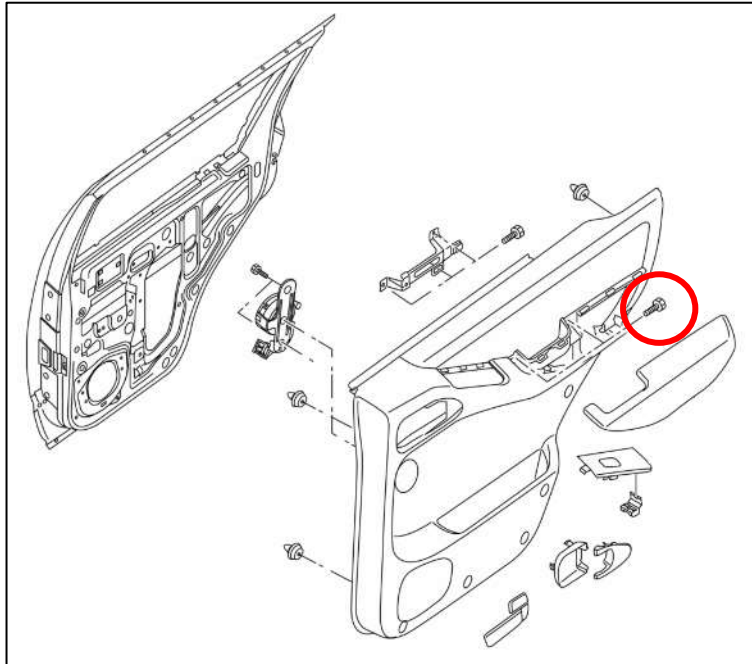

Figure 84
6. Remove the (2) two bolts securing the Door Panel to the Door. *Figure 84.*